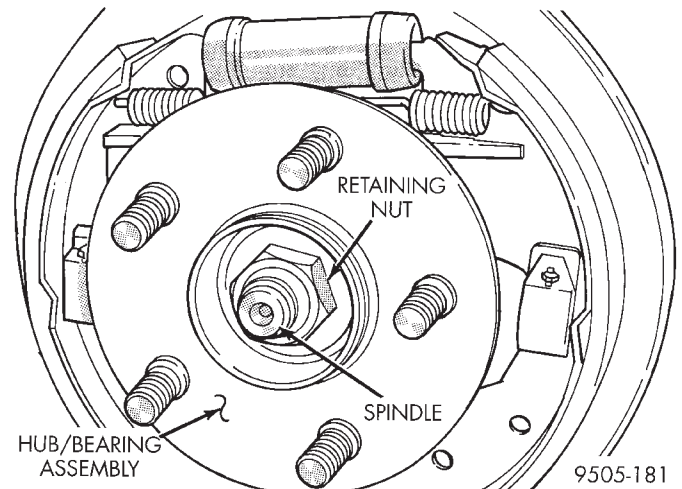

Fig. 124 Hub And Bearing Retaining Nut
- (4) Remove the rear hub and bearing assembly retaining nut (Fig. 124). Then remove the hub and bearing assembly from the rear spindle.
- (5) Remove rear brake shoe assemblies from the brake support plate. Refer to Rear Brake Shoes in
- (1) Install gasket and brake support plate on rear spindle. Tighten the support plate-to-spindle attaching bolts to a torque of 63 N·m (46 ft. lbs).
- (2) Insert parking brake cable end fitting into brake support plate.
- (3) Hand start hydraulic brake hose tube fitting to wheel cylinder. Tighten tube nut to a torque of 17 N·m (145 in. lbs.).
- (4) Install rear brake shoe assemblies on the brake support plate. Refer to Rear Brake Shoes in the Removal And Installation Section in this group of the service manual for the proper brake shoe assembly installation procedure.
- (5) Install the rear hub and bearing on the rear spindle. Install a **NEW** hub and bearing assembly retaining nut (Fig. 124).
- (6) Tighten the hub and bearing assembly retaining nut to a torque of 250 N·m (185 ft. lbs.). Install dust cap.
- (7) Adjust brake shoes assemblies so as not to interfere with brake drum installation.
- (8) Install brake drum on rear hub/bearing assembly.
- (9) Bleed the vehicle's base brakes hydraulic system.
- (10) After brake drums are installed, pump brake pedal several times to do final adjustment of the brake shoe assemblies.
- (11) Install the wheel and tire assembly. Tighten the wheel mounting stud nuts in proper sequence until all nuts are torqued to half specification. Then repeat the tightening sequence to the full specified torque of 129 N·m (95 ft. lbs.).